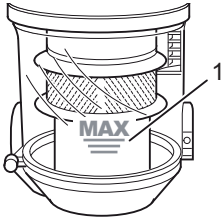

Fig. 20
■ Empty the dust container at the latest when the accumulated dirt in the dust container has reached the "MAX" mark (Fig. 20/1).